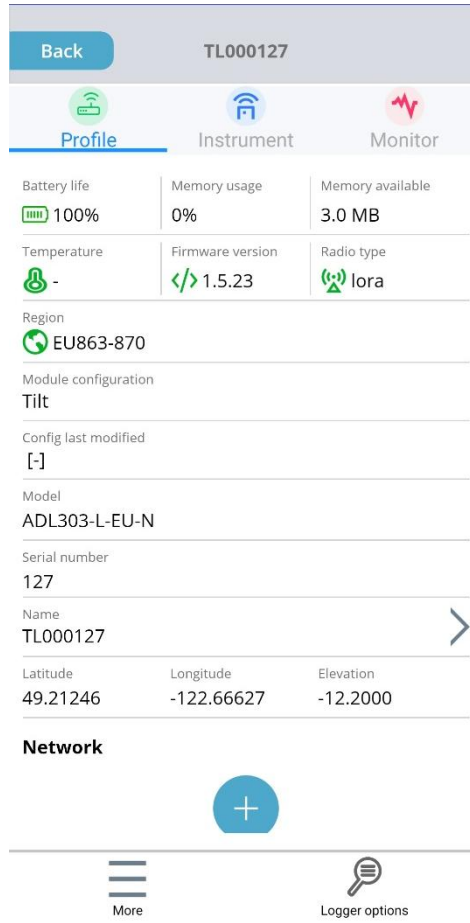

Figure 8: Main Dashboard
2. Select Proceed. The Main Dashboard as shown in Figure 8 appears.